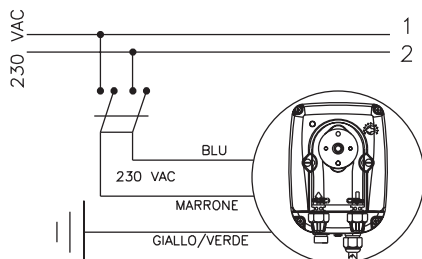

Fig. 4
- b. - Carefully observe the regulations in force in the various countries as regards electrical installations (Fig.4). **When the supply cable is devoid of a plug, the equipment should be connected to the supply mains by means of a single-pole circuit breaker having a minimum distance of 3 mm between the contacts. Before accessing any of the electrical parts, make sure that all the supply circuits are open.**